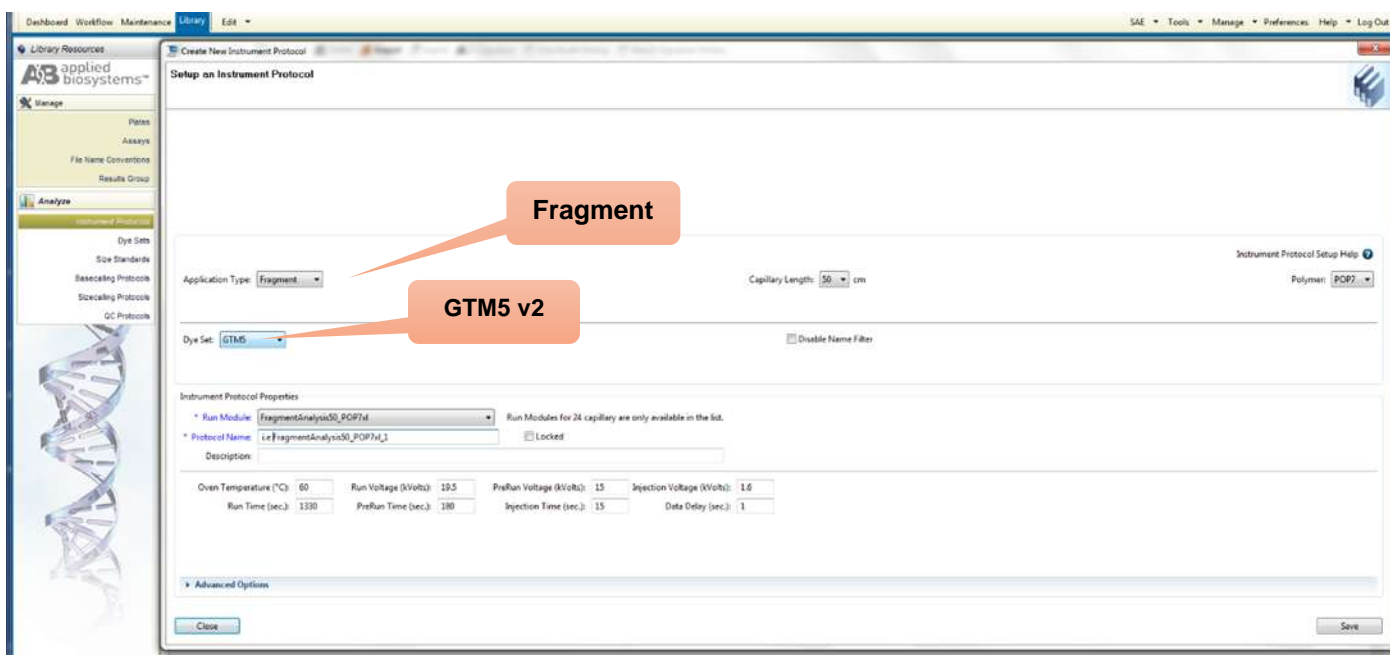

Figure 5. Screenshot for the “Create New Instrument Protocol” window on Applied Biosystems 3500 Data Collection software
- User can apply settings as shown in the Figure 5. Make sure that you select GTM5 v2 as a *Dye Set* (same name as was used to perform the GTM5 v2 spectral calibration).
- c) Select “Create” (Figure 5)